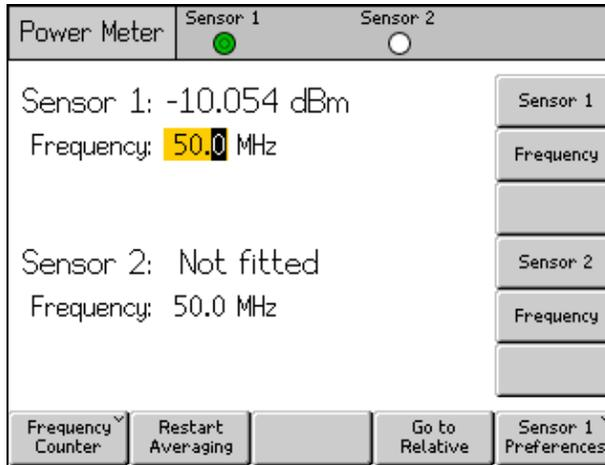

Figure 3-39. Power Meter Screen-Setting Frequency
To obtain valid measurements, the frequency setting for each connected sensor must correspond to the frequency of the signal to be measured. To set the frequency, push **MEAS** to show the Power Meter Readout screen. Push the Frequency softkey to select the frequency field for the required sensor (the softkey opposite the Sensor 1 or Sensor 2 frequency field) as shown in Figure 3-39. The frequency value may be adjusted with the cursor keys and scroll wheel or entered directly using the keypad. The allowable frequency values are determined by the connected sensor and generally include 0 Hz.
1. Push **MEAS** to show the Power Meter readout screen as shown in Figure 3-39.